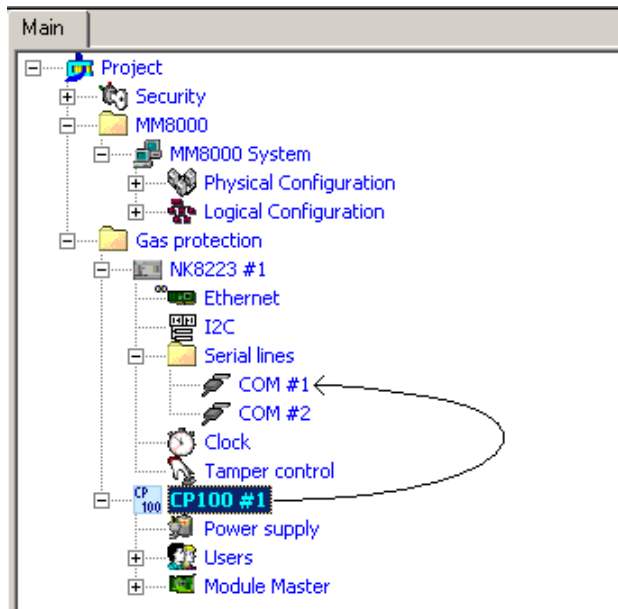

Fig. 16 Link CP100 to the NK8000 network
3. Drag and drop the CP100 node to the network COM port (see Fig. 16).